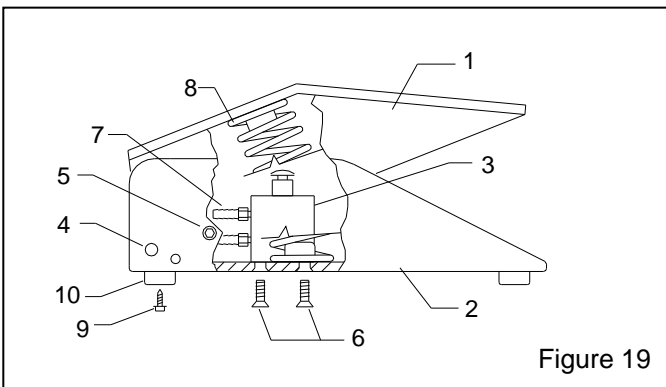

Figure 19
9.4 Foot Pedal Assembly, Figure 19